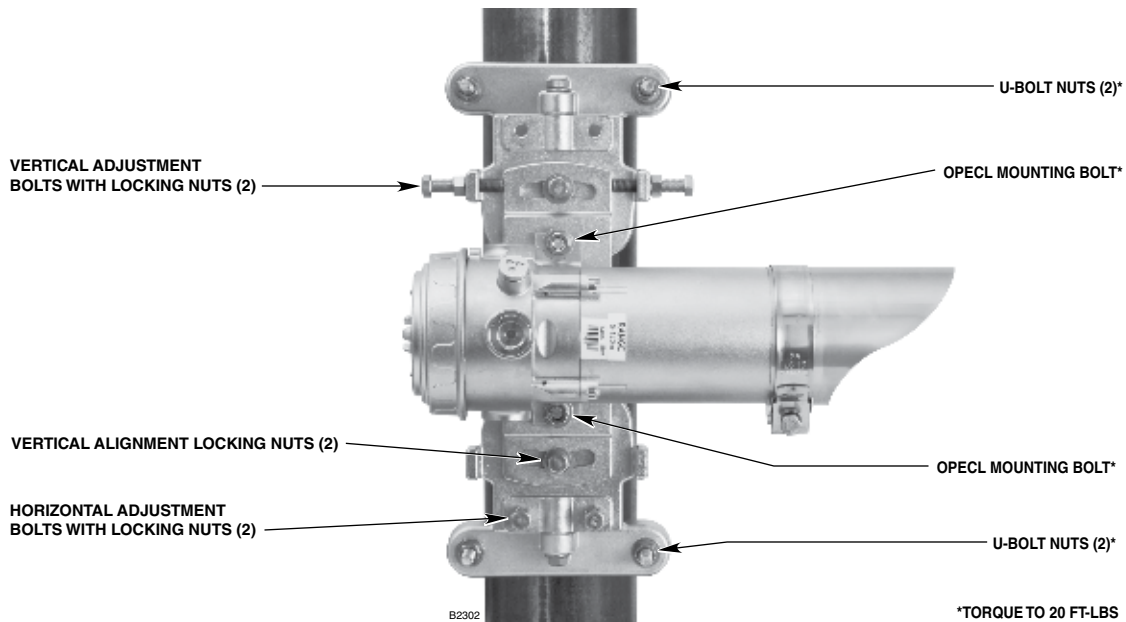

Figure 18—OPECL Mounting and Alignment Hardware (Transmitter Module Shown)
3. Loosen the locking nuts on the alignment adjuster bolts so that the bolts can be freely tightened or loosened for alignment purposes. Loosen, then hand-snug the two vertical alignment locking nuts. See Figure 18. At this point, the unit should be easily adjustable in the vertical and horizontal positions with little or no adjustment slop.